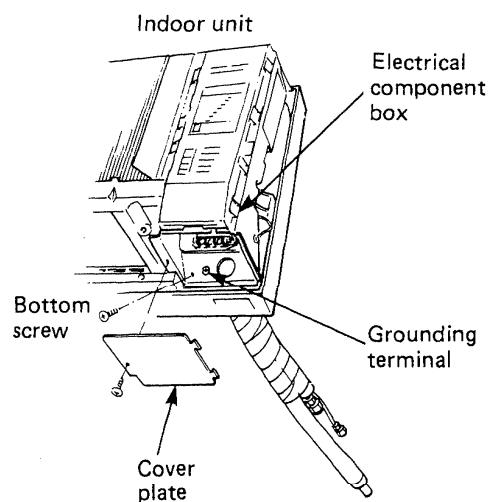

Fig. 15
- b) Unscrew the cover plate of the electrical component box. Then remove the bottom screw securing the electrical component box. Fig. 15